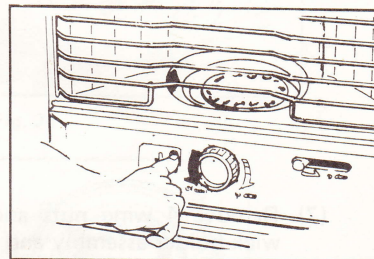

Fig. 16
(2) Press shut-off lever down. (Fig. 16)